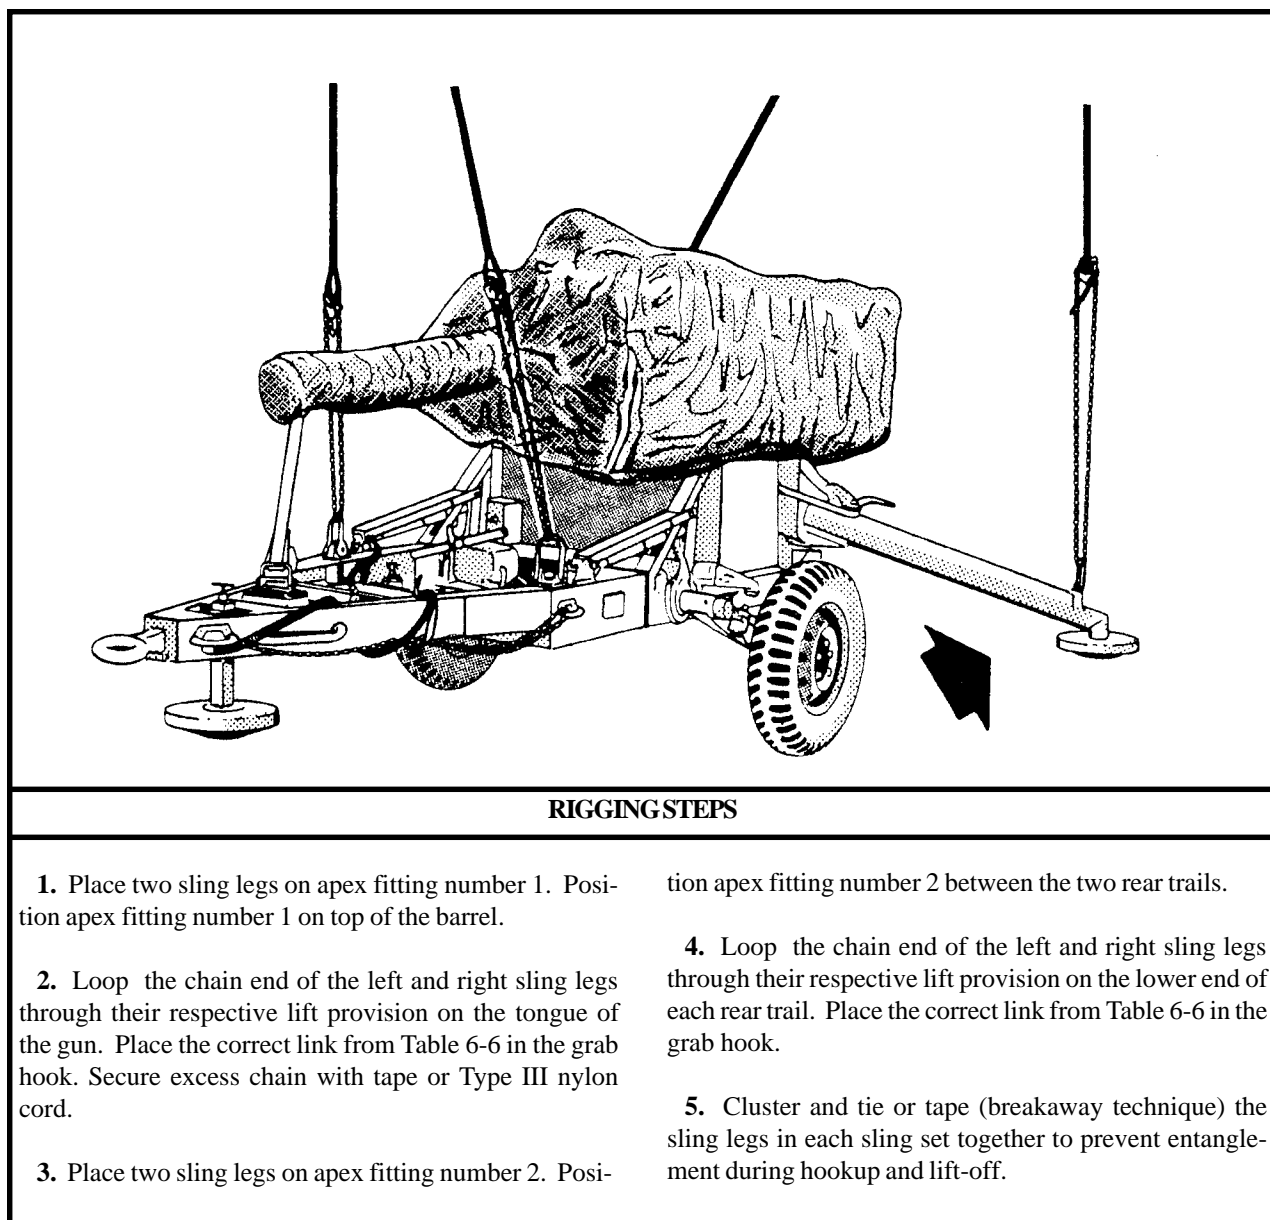

Figure 6-6. M167 20-mm AA Gun (Vulcan)
(2) **Rigging.** Rig the load according to the steps in Figure 6-6.